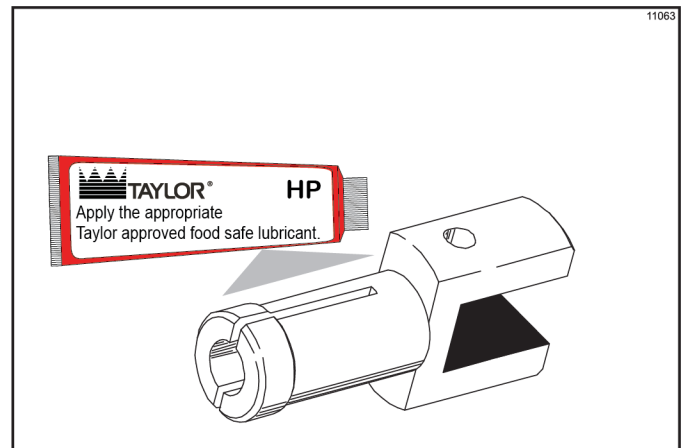

Figure 6-11
10. Lubricate the smaller end of the driven spinner. (See Figure 6-11.)